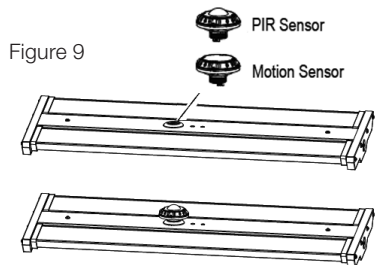

Figure 9
**STEP 2:** Twist-lock the DC sensor to the base to make it work properly: use a remote control to adjust the working mode of the sensor as desired (Figure 9).